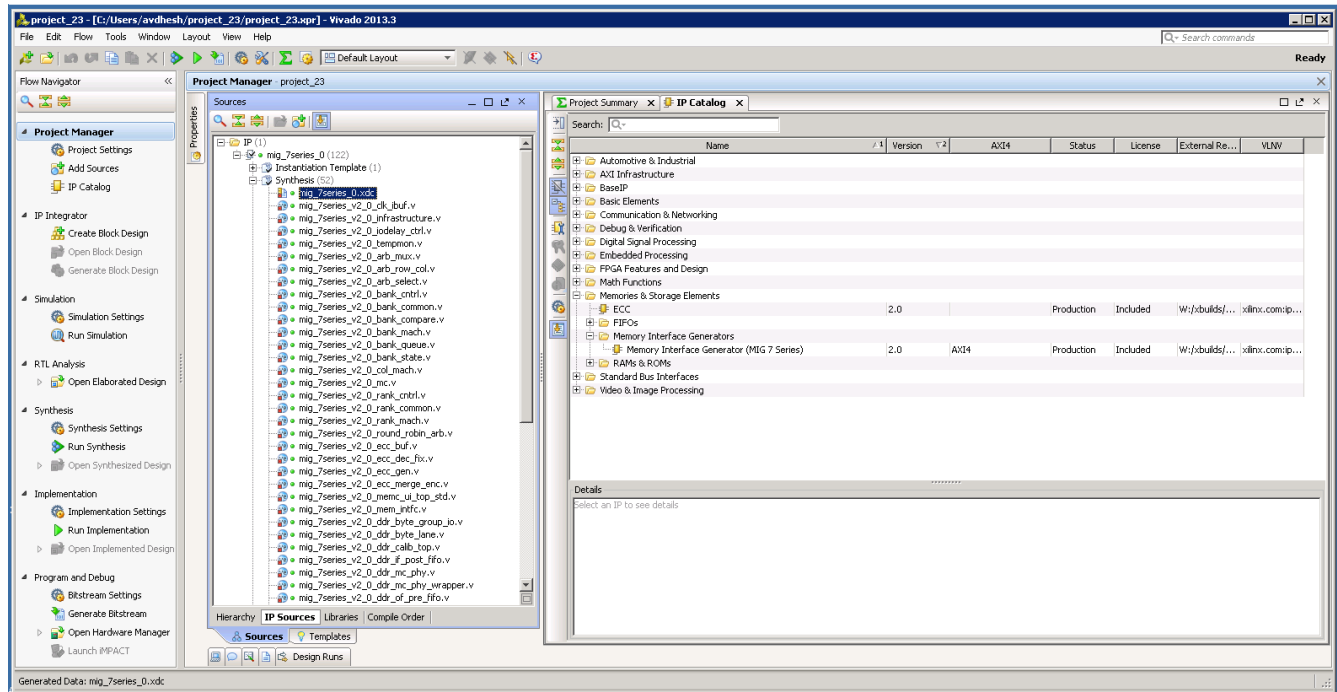

Figure 3-31: Vivado Project – RTL and Constraints Files
8. All user-design RTL files and constraints files (XDC files) can be viewed in the **Sources > Libraries** tab (Figure 3-31).